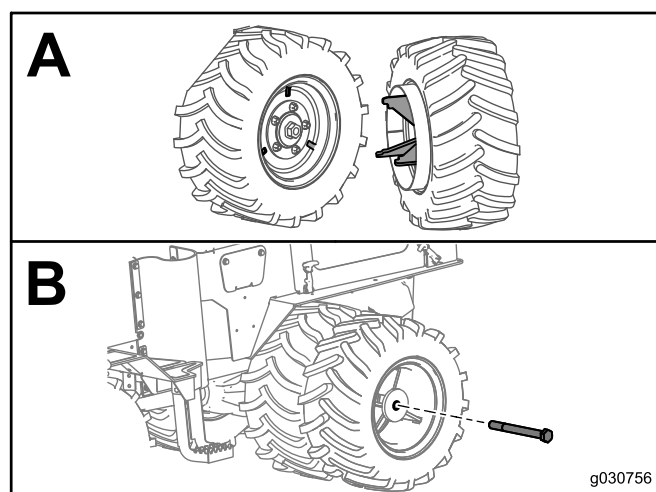

Figure 2
7. Align the tabs on the dual wheel with the slots in the adaptor plate (Box A of Figure 2).
8. Install the dual wheel to the adaptor plate using a large bolt with thread-locking adhesive (Box B of Figure 2). Torque the bolt to 610 to 623 N-m (450 to 460 ft-lb).